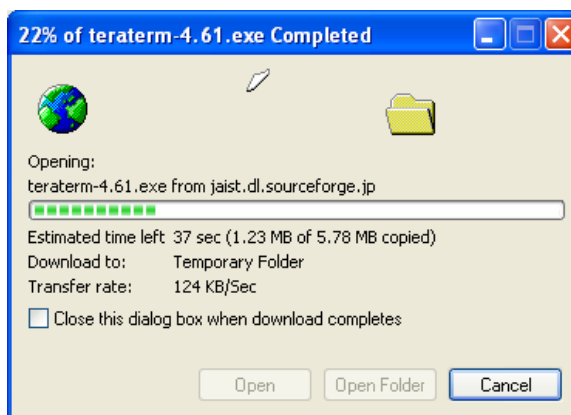

Figure 6-2: File Download
4. A progress screen is displayed during the file download (Figure 6-2).